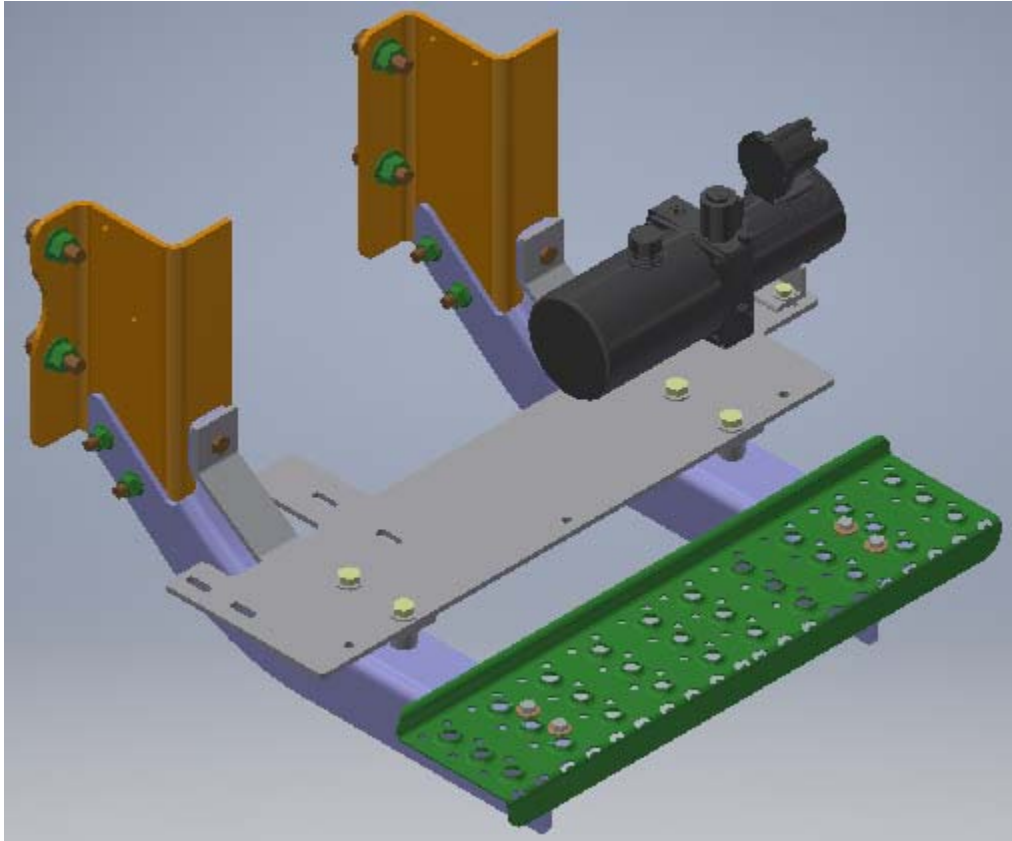

Figure 6: Brake Pump Installation
10. Install Hydraulic Brake Pump (R-5670) and Spacer (R-4574B) on Pump Plate by using the supplied 3/8" x 1 1/4" bolts, flat washers, and lock washers to fasten. (Figure 6)